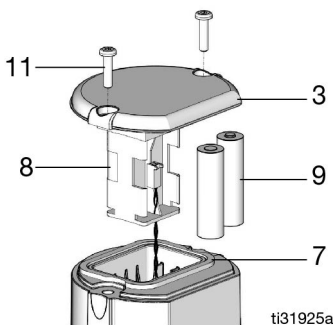

FIG. 10
1. Remove two screws (11) and cover (3) (FIG. 10).
2. Carefully pull battery holder (8) out of TLM just far enough to install the batteries (FIG. 10).